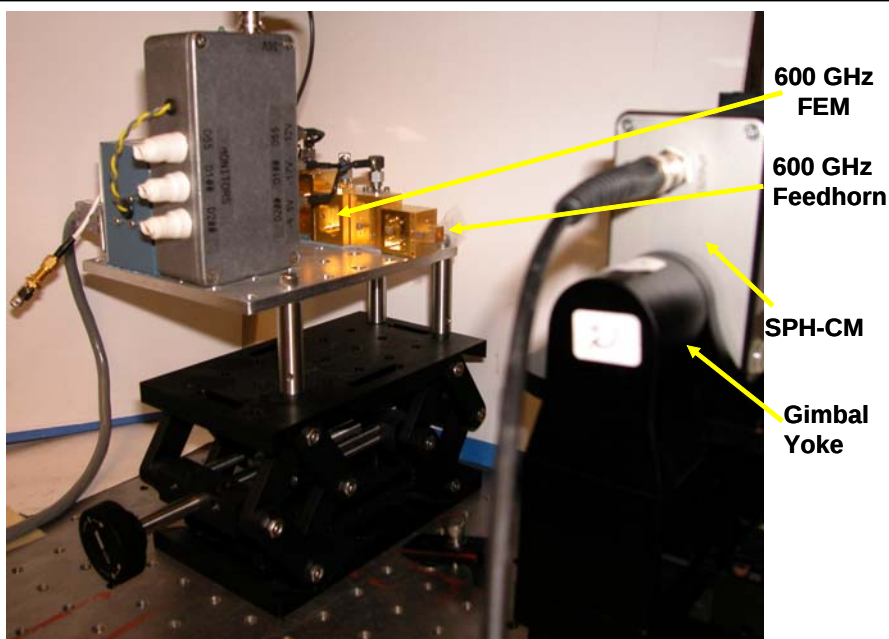

Fig. 1.
the optical window to block background IR radiation from the pyroelectric detector. Then mount the SPH-CM on the Gimbal mount (NEP set-up) or the optical bench (NEAT set-up). Photographs of these two set-ups are provided in Figs. 1 and 2, respectively.
After inserting your pyroelectric detector in the socket of the Bias Box, mount the bias box on the gimbal mount shown in Fig. 1. The gimbal has been pre-aligned with respect to the FEM feedhorn so that the pyroelectric detector should be located close to the “bore-sight” position. Then turn on the bias to the detector and TIA (switch on side of bias box). Make sure Channel 1 of the LIA is set for magnitude (R), and that a healthy reading appears Channel 1 of the LIA (a few mV). Using the MATLAB Script provided, rotate the pyroelectric detector in azimuth and elevation over 90 degrees for each. The two-dim antenna pattern is displayed as the rotation occurs. After the rotation is done, save your data to a .txt file. Then either by inspection or using a program (e.g., Excel), find the maximum pyroelectric output signal, making sure your maximum value is not a “glitch.” Then convert your value to an optical responsivity (Question#1 or Write-Up).